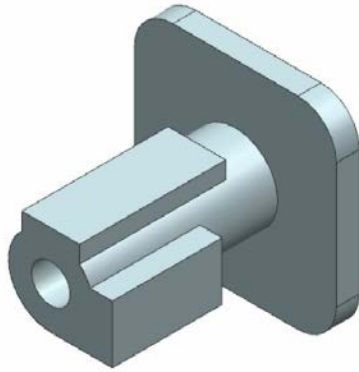

Figure 6-101 Model after creating the hole feature
- d. Create the simple hole on the left face of the model using the **Hole** tool, refer to Figure 6-101.
4. Accept other default settings and choose the **OK** button from the dialog box; a hole is created, as shown in Figure 6-101.